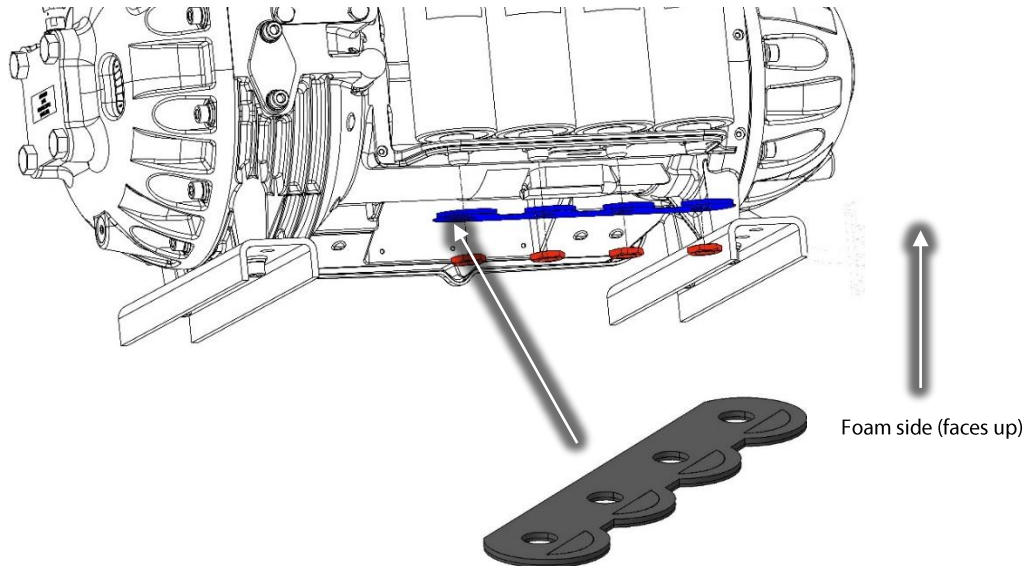

Figure 14 – Relief Membrane Orientation
14. Install the new capacitor relief membrane over the nylon threads under the compressor housing, below the capacitors. The membrane is made up of a closed-cell foam and a PVC backing. The foam side should be facing up. Refer to Figure 14 (Relief Membrane Orientation) for an illustration.